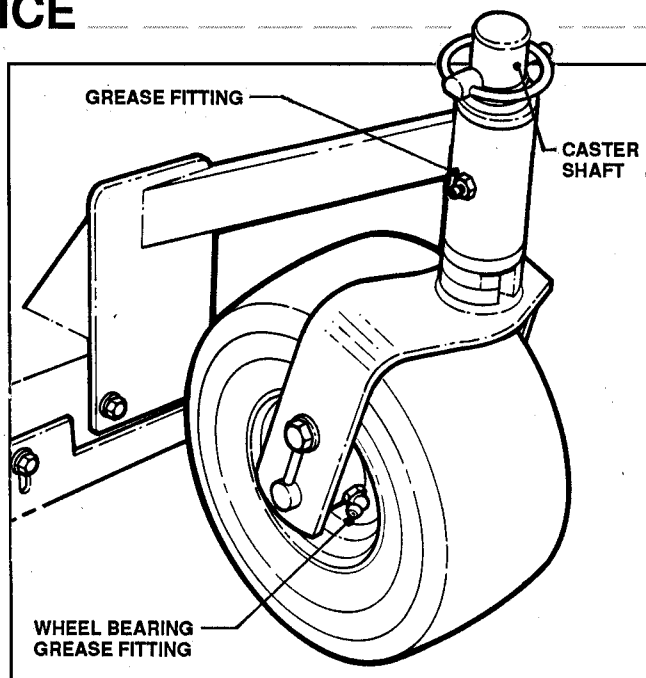

FIGURE 14
- **FRONT WHEEL BEARINGS AND CASTER SHAFTS:** Lubricate through fittings with bearing grease from a pressure gun. See Figure 14.